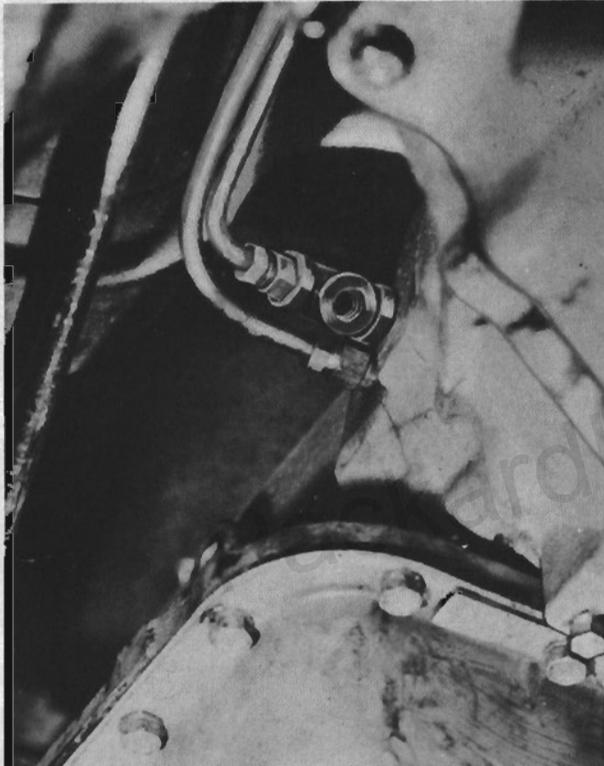

FIG. 269
- (a) Converter out pressure. A special fitting, made by installing a  $\frac{1}{8}$ " (3.2 mm.) male nipple in one end of a  $\frac{1}{8}$ " tee and brazing the nipple and tee, is required to make this test (see Fig. 269).